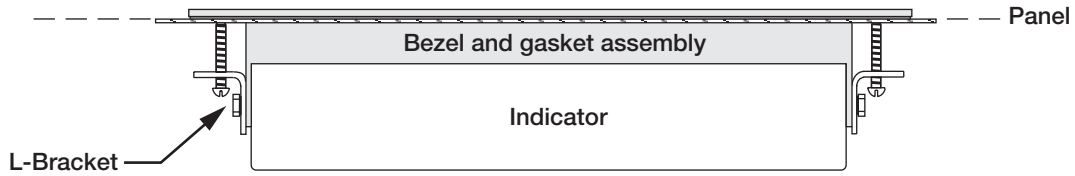

Figure 2. Panel Mounted Indicator (Top View)
6. Start the four 1/4-20NC x 1 3/4" round-head machine screws into the panel mount brackets. Place a few drops of a removable-strength thread adhesive (such as Loctite®) on the screw threads to prevent loosening in high-vibration environments. Tighten screws until the indicator is held securely against the panel. Figure 2 shows a top view of a completed panel mount installation.